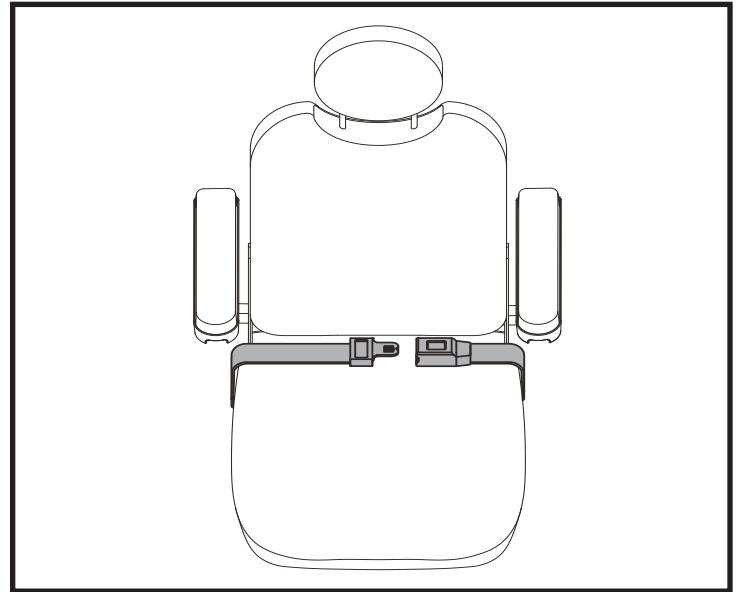

Figure 11. Positioning Belt Adjustment
Your power chair may be equipped with a positioning belt that can be adjusted for operator comfort. See figure 11. The positioning belt is designed to support the operator so that he/she does not slide down or forward in the seat. The positioning belt is not designed for use as a restraining device.
1. Once seated, insert the metal tab on one side of the belt into the plastic housing on the opposite side until you hear a click. See figure 11.